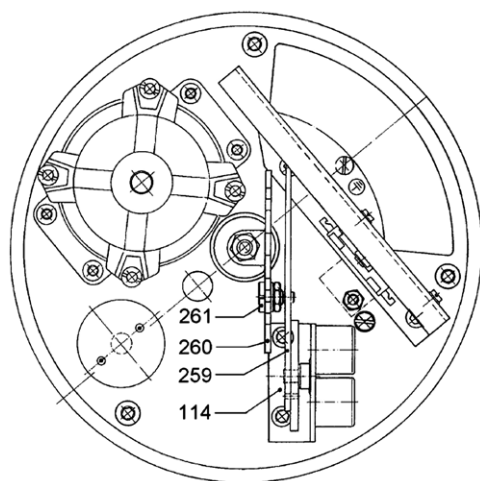

Figure 8: Switching/signalling unit
After the linear actuator has been assembled on the valve as described in chapter 4.2, install the separately supplied or previously removed adjusting lever (see figures 8, 9 and 10):
- Use the handwheel to move the actuator to the end position "connecting rod extended" until DE switch S1 is switched. Make sure the adjusting lever [260] (see figure 8) and driving lever [259] are parallel in their tilted position